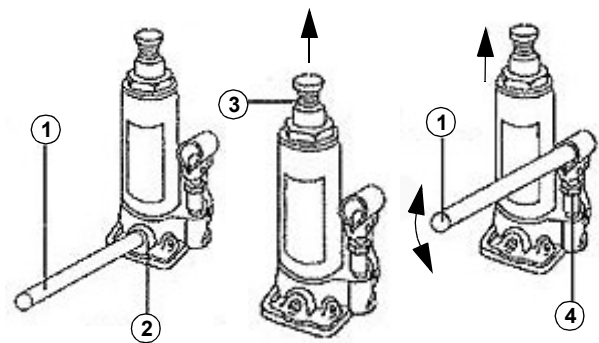

Fig. 5: Workflow
Step 1: Close the open drain valve (Item 2, Fig. 5) by turning the narrow end of the pump lever to the right (Item 1, Fig. 5).
Step 2: Place the jack under the vehicle to be lifted under the jacking points anticipated for the jack (refer to the owner's manual of your vehicle). If necessary, turn the expansion screw (Item 3, Fig. 5) out of the lifting punch by turning it counterclockwise until it touches the vehicle. So the exact pickup point can be determined.
Step 3: Insert the pump lever (Item 1, Fig. 5) into the pump (Item 4, Fig. 5) and move the lever evenly up and down. Lift the vehicle up to the desired height.
Step 2: Place the jack between the items. Make sure that the horizontal operation is only possible when the pump lever is in the lower position (Fig.6). If necessary, turn the extension screw (Item 3, Fig. 5) out of the lifting punch by turning it counterclockwise until it touches the object. Thus, the exact pick-up point can be determined, and a secure position can be ensured.
Step 3: Insert the pump lever (Item 1, Fig. 5) into the pump (Item 4, Fig. 5) and move the lever evenly to the left and right to push the items apart.